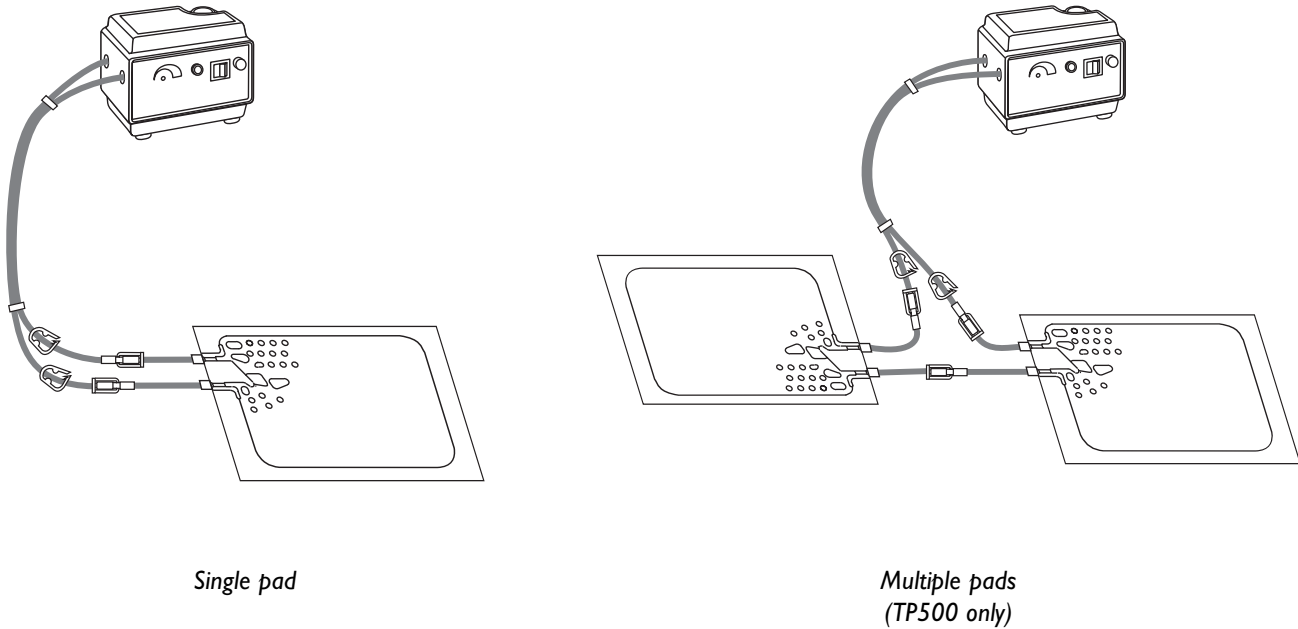

Figure 1—T/Pump Heat Therapy System
NOTE: Refer to figure 1 (p. 2) and item 9 (p. 6) when connecting multiple pads.
For best results use only GAYMAR T/Pads® or Mul•T•Pads®. The unique button design allows water to flow and provides trouble free operation when the pad is folded. This reduces the number of different sizes of pads your facility must keep in inventory. The T/Pads can be interconnected (on model TP500 only) to provide therapy to more than one body site at a time (see fig. 1, p. 2). For a brochure listing the various pads, contact the GAYMAR Customer Service Department (see next page for telephone numbers).